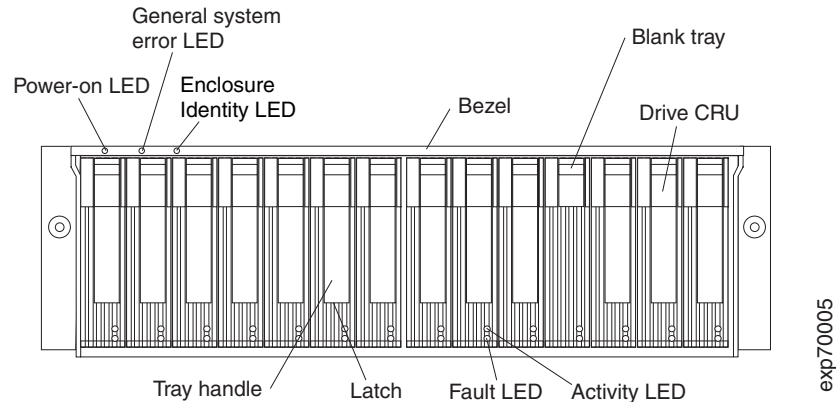

Figure 56. Hot-swap hard disk drive LEDs
2. Check for Fault LEDs shown in Figure 56. If any amber LEDs are lit, see Chapter 4, "Hardware maintenance," on page 85.